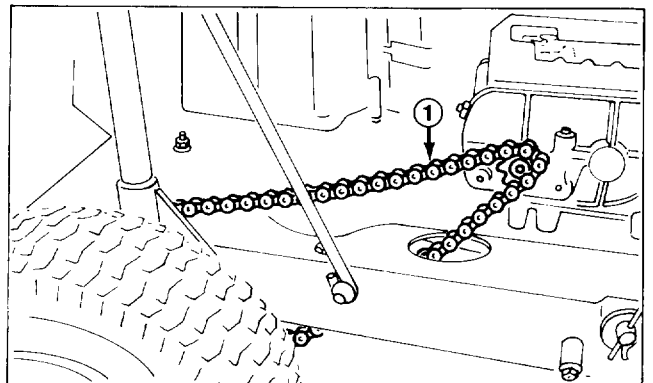
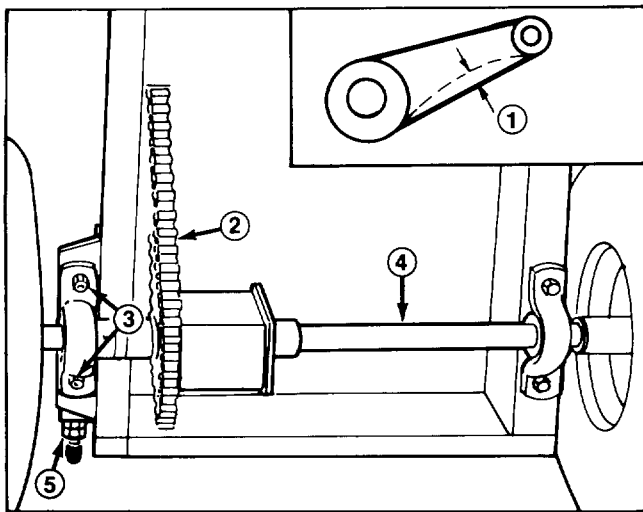

Figure 23
Figure 24
2. Check deflection of drive chain by lifting up and pressing down on chain with moderate pressure at mid span (Fig. 23). There should be 1/8 of an inch total deflection (Fig. 24). If deflection is not as specified, an adjustment is required — steps 3-14.
6. Shift transmission into 1st gear and engage the parking brake. Tip rider onto its rear end so chassis is on top of 2" x 4" blocks (Fig. 24). Wheels must be off the floor so axle can be moved.
7. Loosen four flange nuts securing pillow blocks w/differential axle to the rider frame (Fig. 24).
8. Loosen rear jamnut on chain tensioner (Fig. 24).
11. Since differential axle must be parallel to rear of chassis, measure distance from center of pillow blocks to rear of chassis (Fig. 24). Difference between the two measurements must not exceed 1/8 inch. If difference exceeds 1/8 inch, differential axle is not parallel with chassis; therefore it must be readjusted.